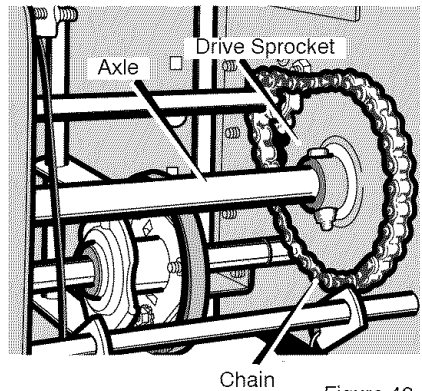

Figure 42
7. Remove the fasteners that secure the **drive sprocket** to the **axle** (see Figure 42).
- Install the left wheel, **axle**, and **drive sprocket** with the fasteners removed earlier. Install the **chain** onto the **drive sprocket** (see Figure 42).